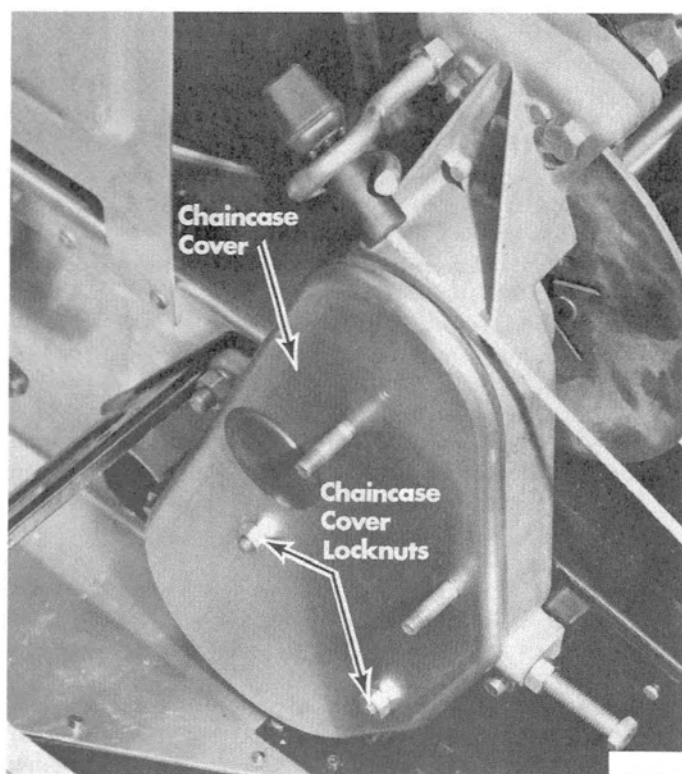

Figure 4. Chaincase Cover
6. Remove 2 remaining chaincase cover locknuts and pull chaincase cover (Figure 4) from chaincase, allowing chaincase lubricant to drain.